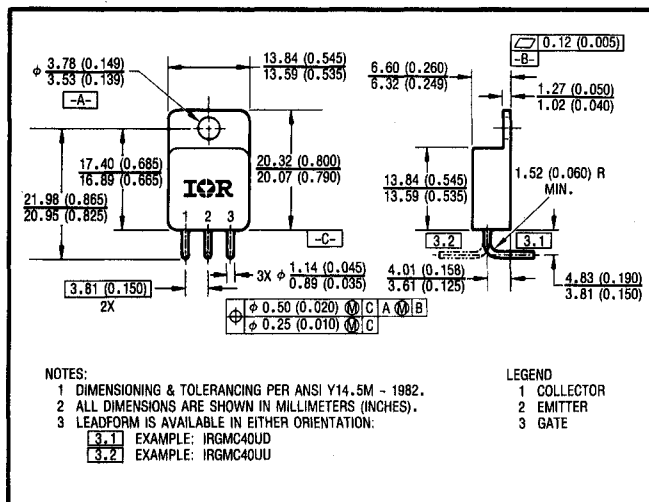

Fig. 15 — Optional Leadforms for Outline TO-254
*For leadform configuration see page G-89, fig. 15